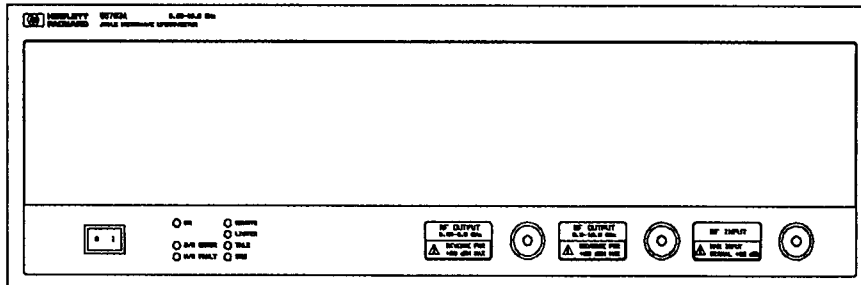

Figure B-9. AMUC Front Panel Features
- Agile Microwave Upconverter (AMUC) figures B-9 through B-11.